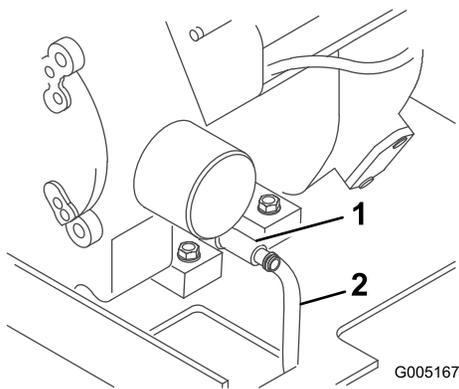

Figure 22
- Place one end of a hose on the drain valve and the other end in a pan (Figure 22).
5. Open the drain valve by turning it counterclockwise, pulling out as you turn it (Figure 22).